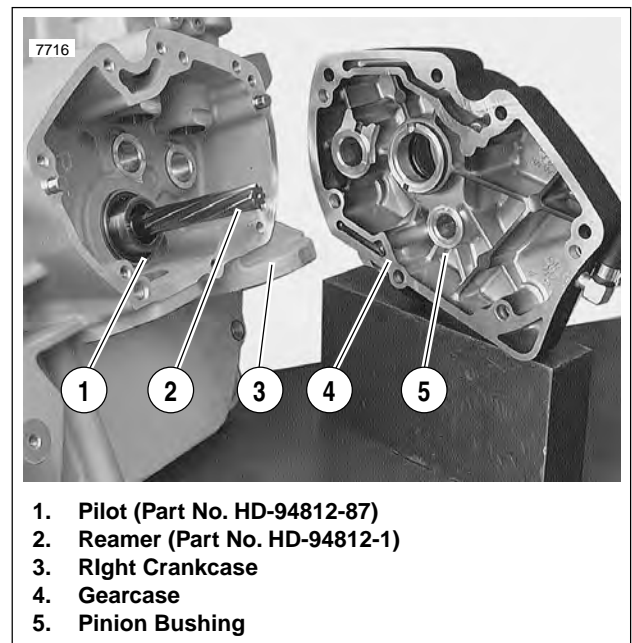

Figure 3-109. Line Reaming Pinion Shaft Bushing
4. See Figure 3-109. Separate gearcase cover from right crankcase half. Inspect bushing for proper pinion shaft fit. Repeat line reaming operation if necessary.